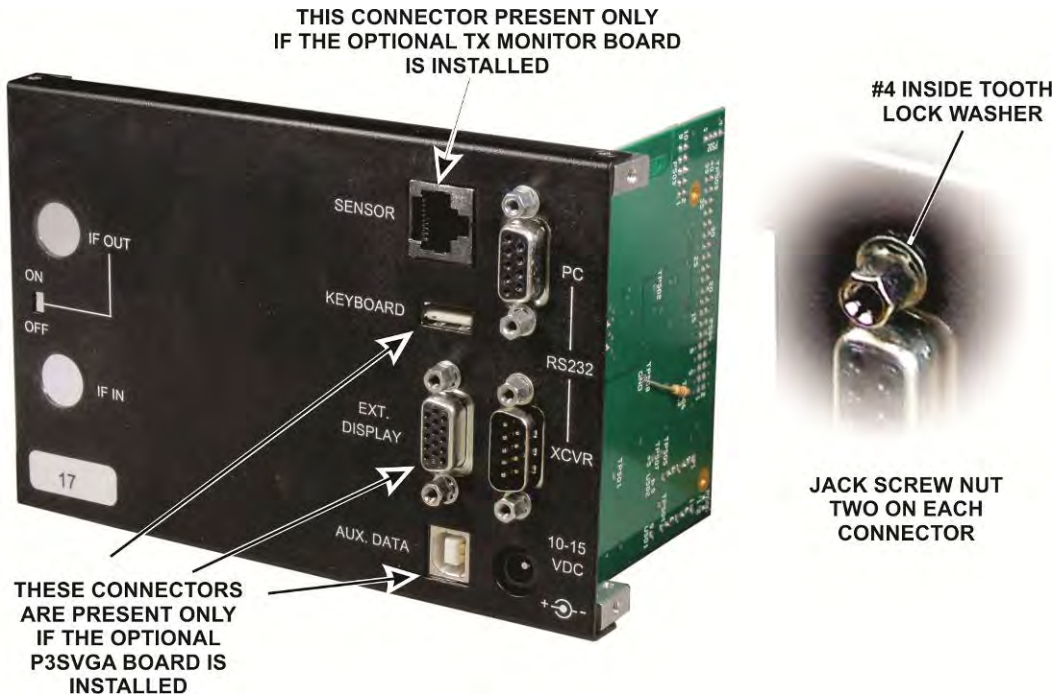

Figure 18. I/O Board Installed.
□ Mount the I/O board on the rear panel with the connectors in the RS232 PC and XCVR holes as shown in Figure 18. It is held in place by the jack screw nuts as shown.